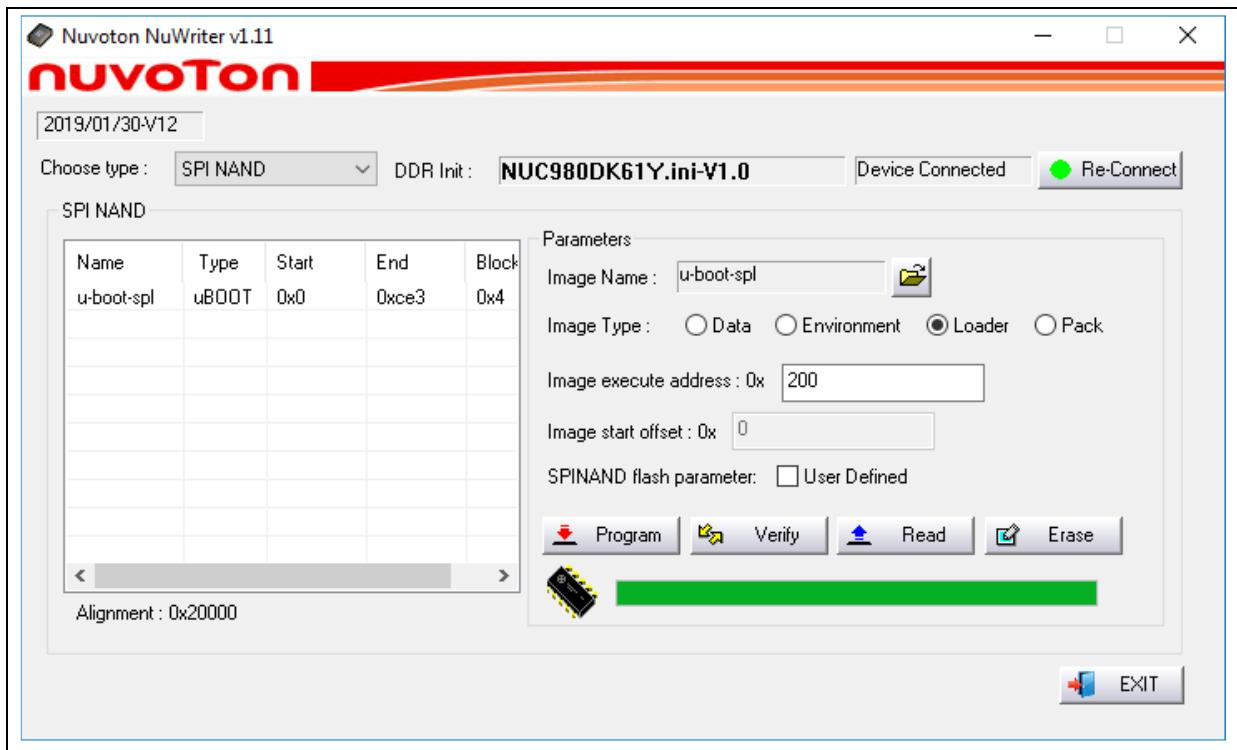

Figure 4-6 Program u-boot-spl
4. According to Figure 4-6, following the steps below to program u-boot-spl.bin: